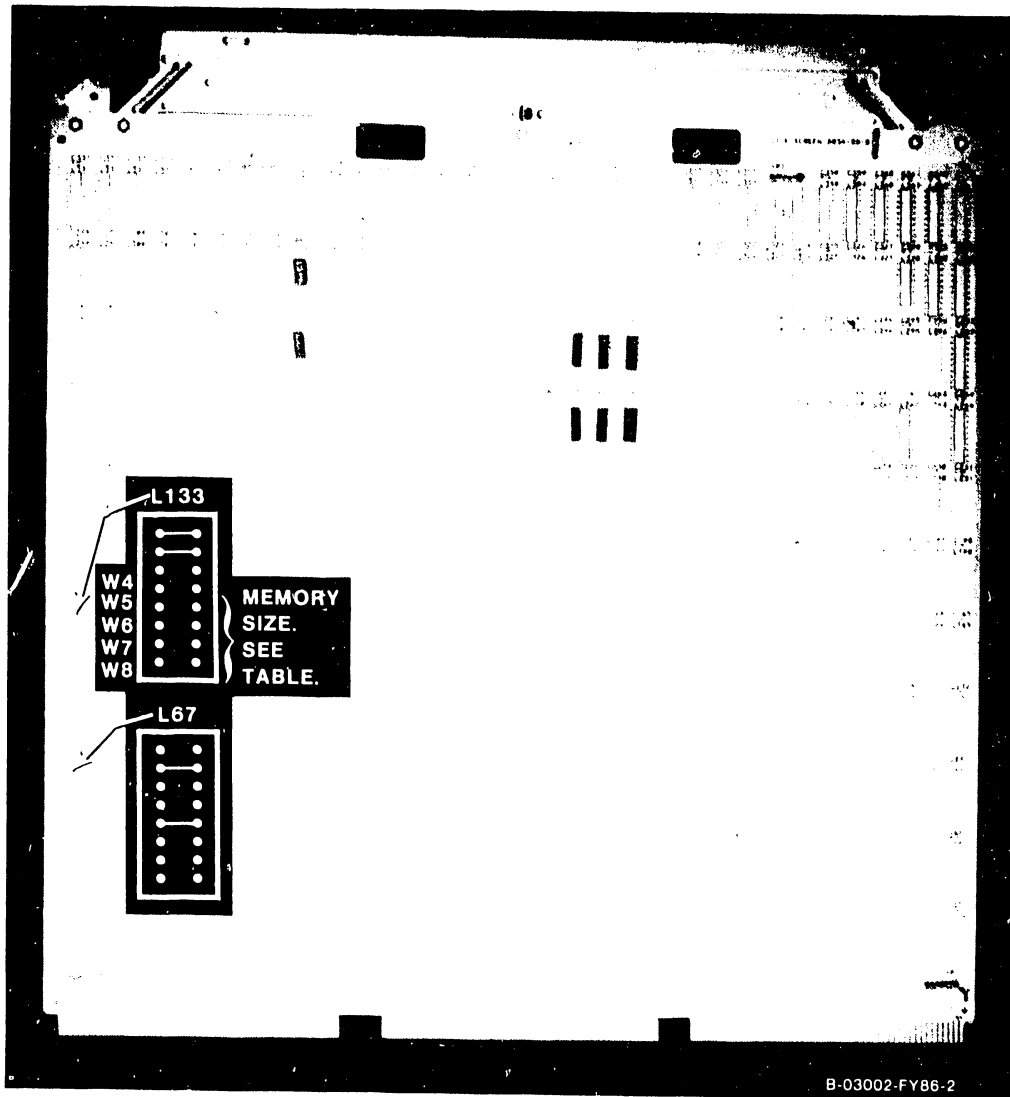

Figure 5-19. 210-8834 Memory Control Unit
1. Remove the Memory Control Unit (MCU) (figure 5-19) from backplane slot #6 in the manner described in 5.3.2.4.1. No cables are on the MCU.
2. After checking the MCU System Address ID jumpers at L67, MCU Support Packet Bus ID jumpers at L133, and Main Memory Size Selection jumpers at L133 (figure 5-19 and table 5-5), install the new MCU.